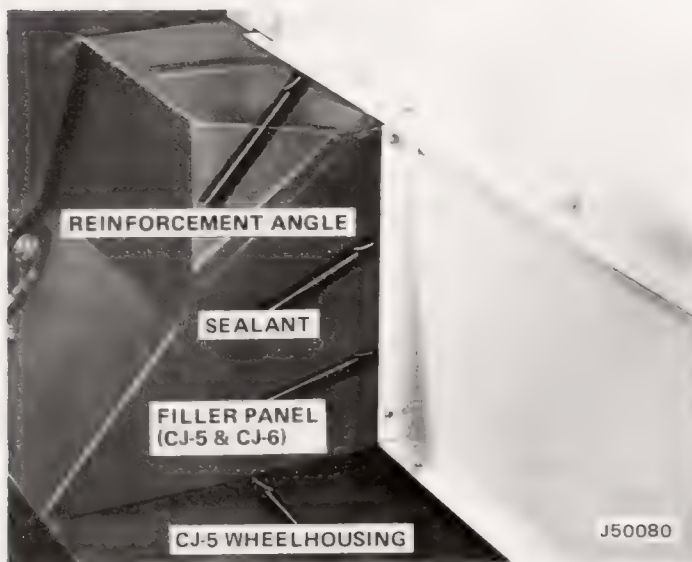

Fig. 2-12 Filler Panel and Reinforcement Angle Installed
(1) Temporarily position filler panel and reinforcement angle (fig. 2-12). Use panel and angle as templates and centerpunch hole locations on top and sides of wheelhousings and on floor.